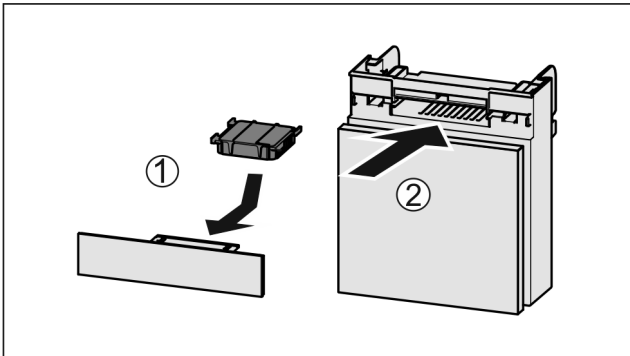

Fig. 201
- ▶ Insert the carbon filter as shown in the diagram Fig. 201 (1).
- ▶ Push the compartment in Fig. 201 (2).